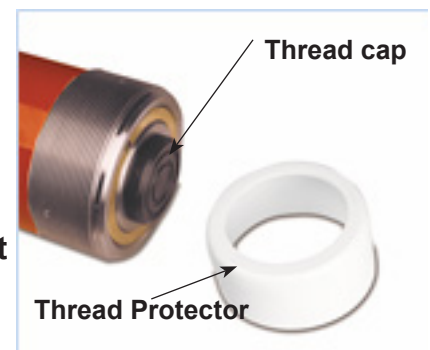

Figure 4
1) Remove plastic thread protector from the cylinder. Also remove thread cap (saddle) to allow ram points to be setup in the cylinder (see figure 4). Please refer to Cylinder's operating instructions for proper use of the tool.